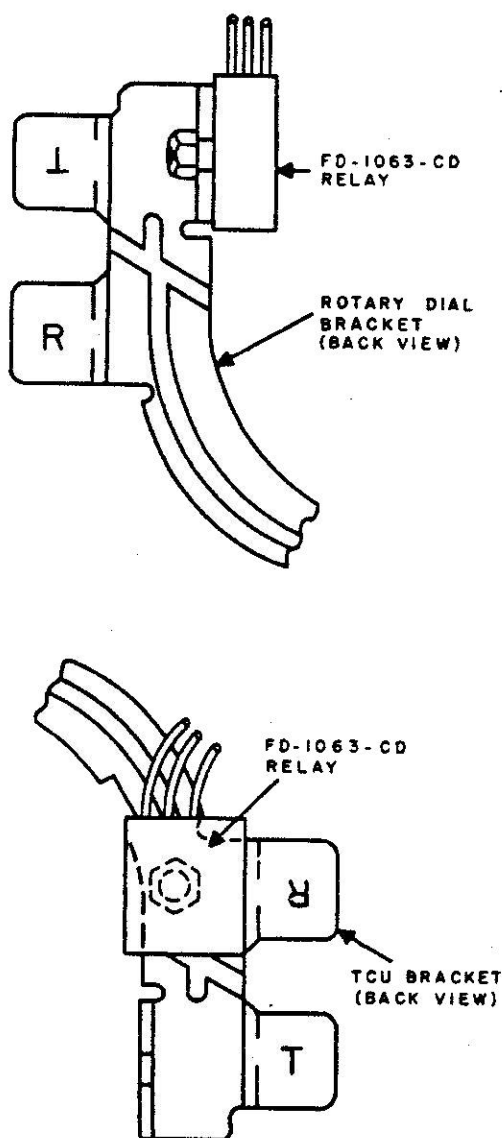

Figure 16. Four-Wire Relay Mounting.
9.11 To modify the HC-819 version of the telephone to provide two-wire to four-wire service, modification kit H-888578-1 is used. Mount the FW relay on the dial (or TCU) mounting bracket (Figure 16). The relay is mounted to the bracket with the hex nut and lockwasher provided. Connect the FW relay leads (using the leads closest to the red dot on the relay) to the transmission-network leads as follows: